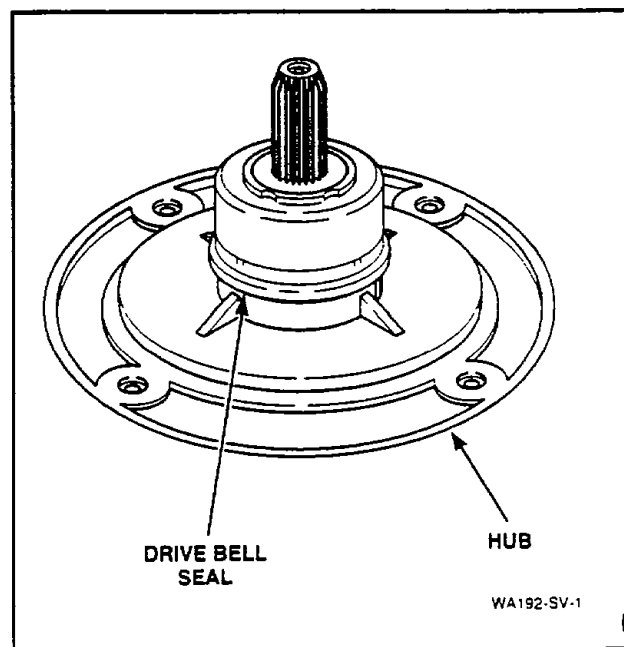
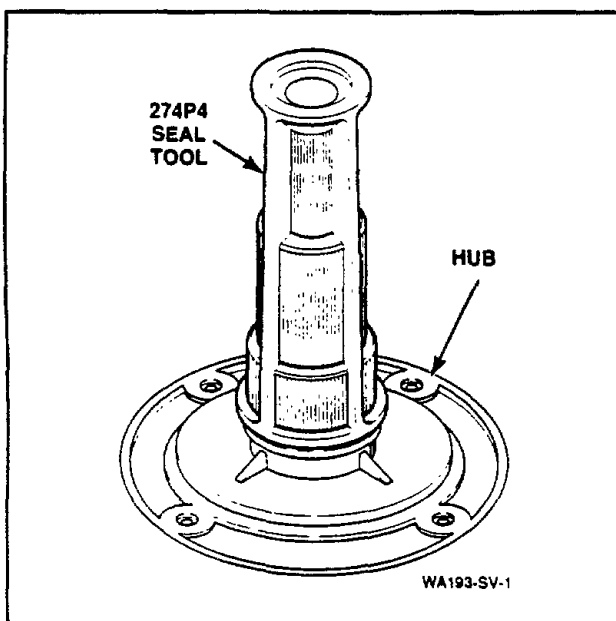

Figure 20
Figure 21
- o. Place the new drive bell seal on hub, *Figure 20*, and carefully push the seal into position using the large end of the No. 274P4 Seal Tool, *Figure 21*.